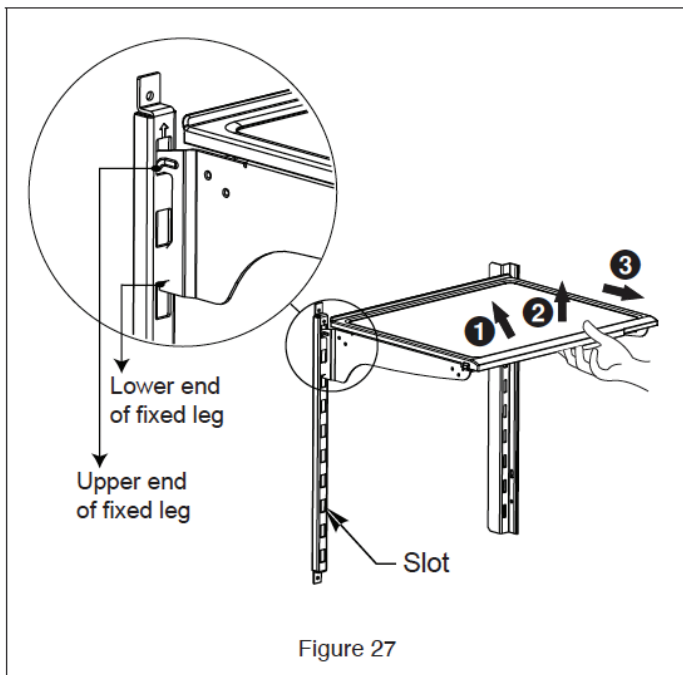

Figure 27
- To adjust the cantilever rack please follow the arrows as show in Figure 27.